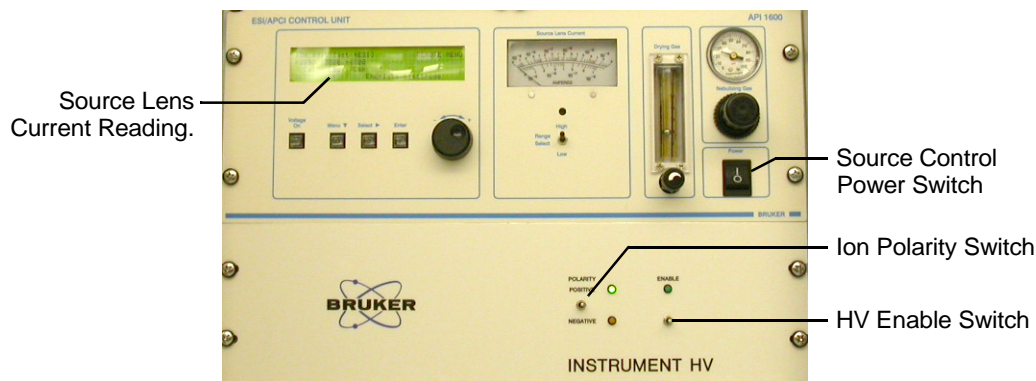

Figure 3-3 Source Control Unit (top) and Instrument HV Panel
8. Check the **Power Switch** in the lower right corner of the Source Control to make sure that the controller is turned on (Figure 3-3).
When the two 3-position switches on the Instrument HV panel (Figure 3-3 on page 3-3) are in the middle position, the unit is remotely controlled from the BioTOF window.